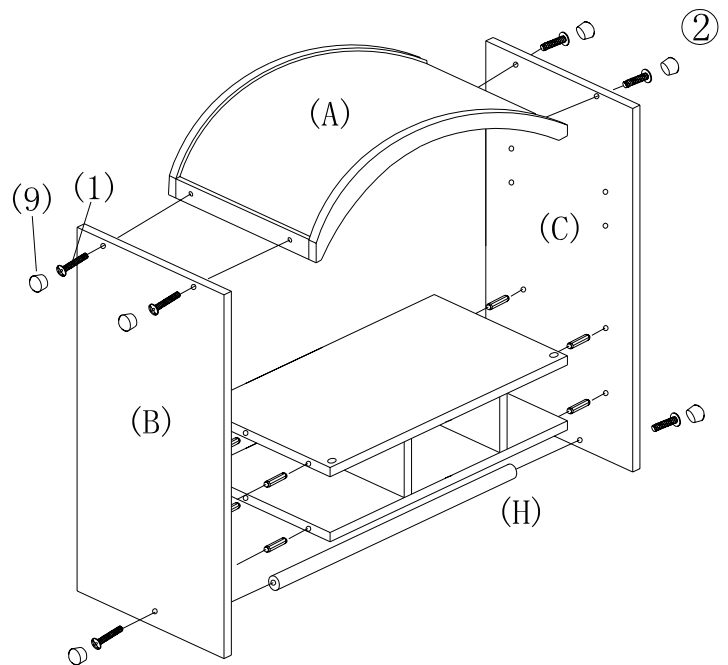

FIGURE 2
4. INSERT WOOD DOWELS (2) INTO PREDRILLED HOLES ON ENDS OF UPPER AND LOWER FIXED SHELVES (D, J) AND FIT INTO CORRESPONDING HOLES ON INSIDE OF LEFT SIDE PANEL (B). INSERT LARGE MACHINE SCREWS (Ø1/4"X3/4") (1) THROUGH PREDRILLED HOLES ON OUTSIDE OF LEFT SIDE PANEL (B) AND TIGHTEN INTO CORRESPONDING HOLES ON ENDS OF TOP PANEL (A) AND WOOD TOWEL BAR (H). PUSH PLASTIC PLUGS (9) INTO THE BIG HOLES ON OUTSIDE OF LEFT SIDE PANEL (B). ASSEMBLE RIGHT SIDE PANEL (C) IN SAME MANNER. (AS SHOWN IN FIGURE 2)